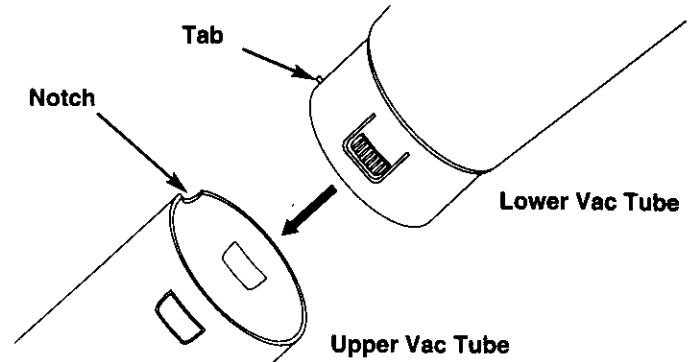

Fig. 2
1. Assemble the vacuum tube by installing the lower tube into the upper tube with the tab on the lower tube aligning with the notch on the upper tube. Push the lower tube down and snap into place (Fig. 2)